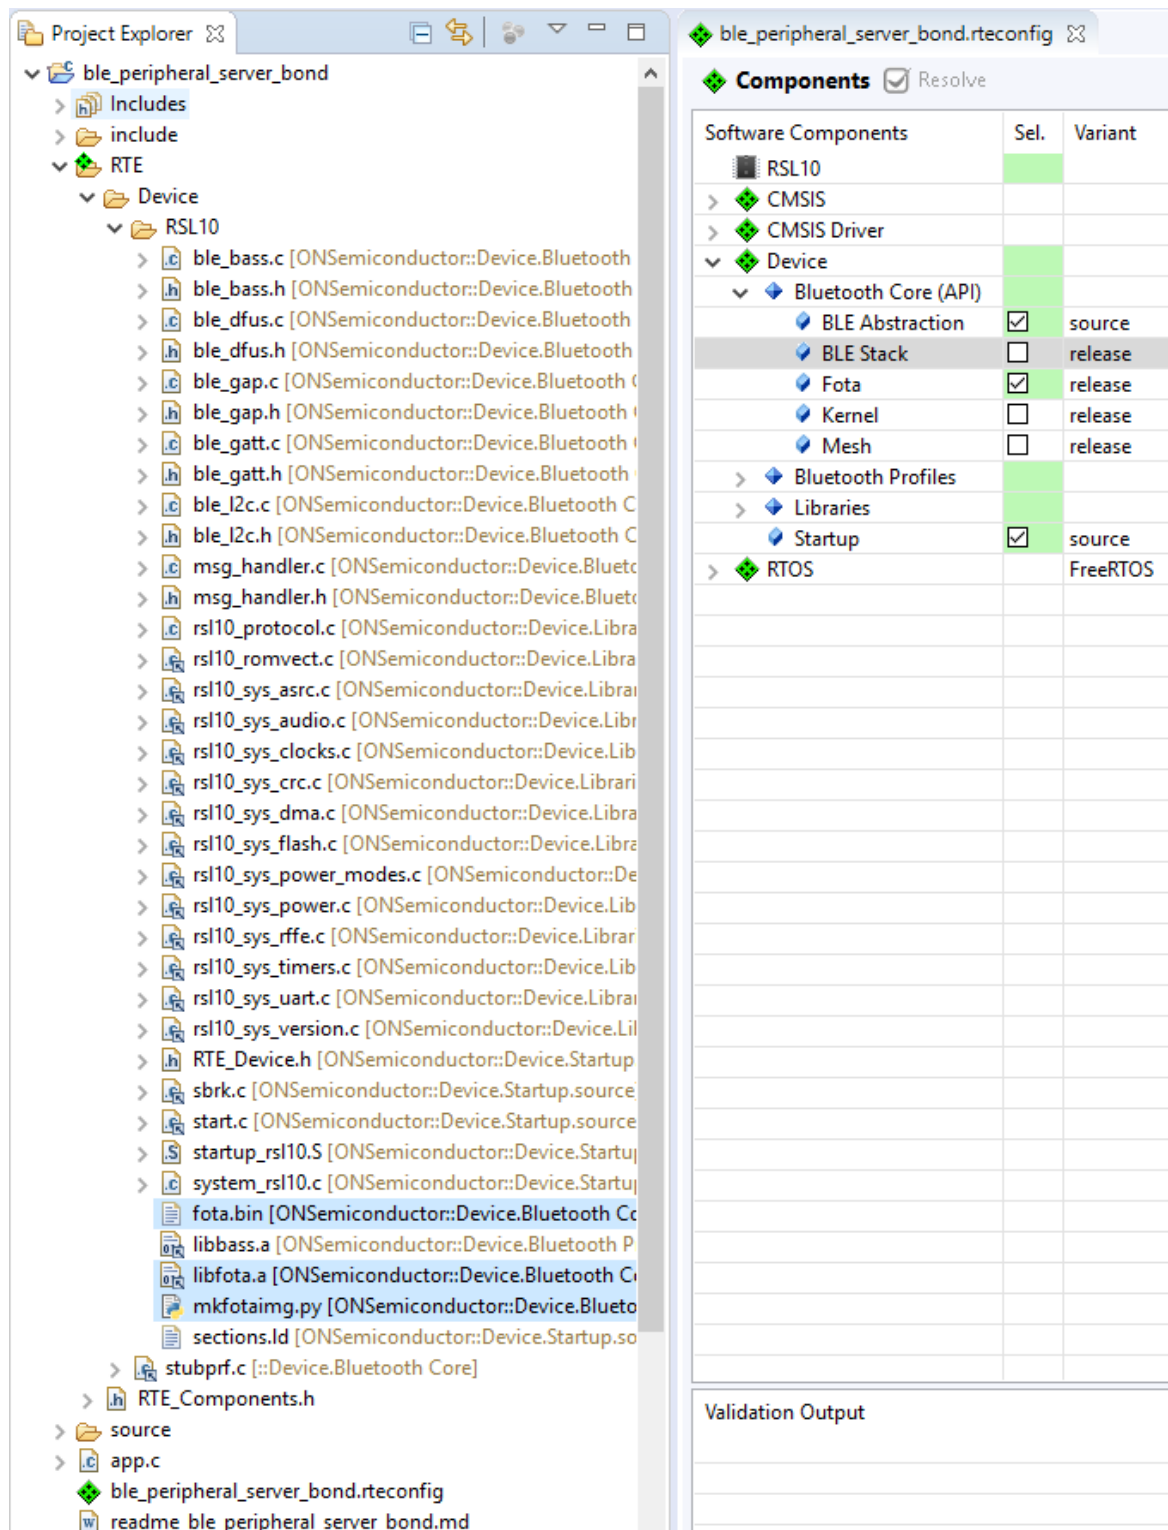

Figure 14. Adding the FOTA Software Component
2. Add the FOTA software component to your project by using the RTE Configuration Wizard (the *ble_peripheral_server_bond.rteconfig* file). When you select the **Fota** component and click save, *libfota.a*, *fota.bin* and the tool *mkfotaimg.py* are copied into your project, under **RTE > Device > RSL10**. In addition, you need to deselect the **BLE Stack** and **Kernel** components and click to save, as shown in the figure "Adding the FOTA Software Component" (Figure 14).